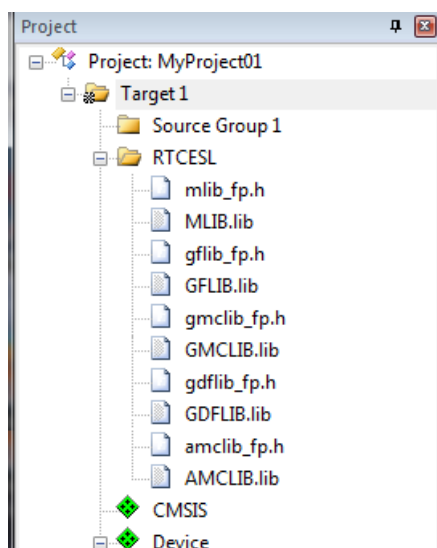

Figure 1-24. Project workspace
14. Now, all necessary files are in the project tree; see Figure 1-24. Click Close.